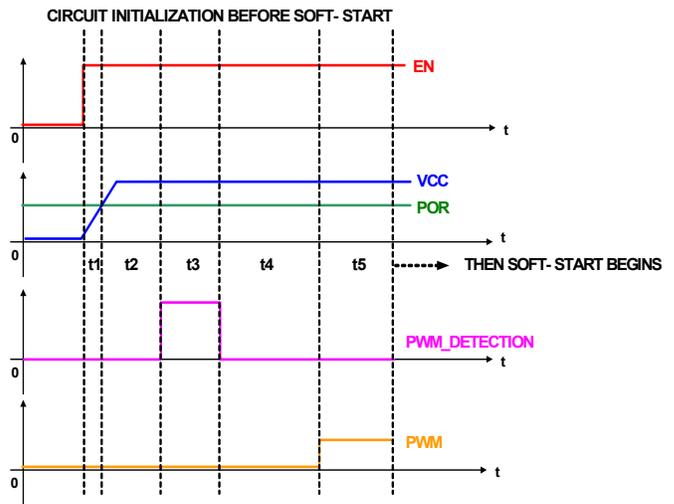

FIGURE 14. CIRCUIT INITIALIZATION BEFORE SOFT-START
Figure 14 shows the ISL78225 internal circuit functions before the soft-start begins.
Figure 14 shows there are 5x intervals before the soft-start is initialized. They are specified as  $t_1$ ,  $t_2$ ,  $t_3$ ,  $t_4$  and  $t_5$ , respectively. The descriptions for each time interval are as follows:
**Time  $t_4$ ,  $t_5$ :** Same as the  $t_4$ ,  $t_5$  in Figure 14, soft-start has not started yet. See “Operation Initialization Before Soft-Start” on page 13 for a detailed description.
**Time  $t_4, t_5$ :** Same as the  $t_4, t_5$  in Figure 14, soft-start has not started yet; see “Operation Initialization Before Soft-Start” on page 13 for detailed description.